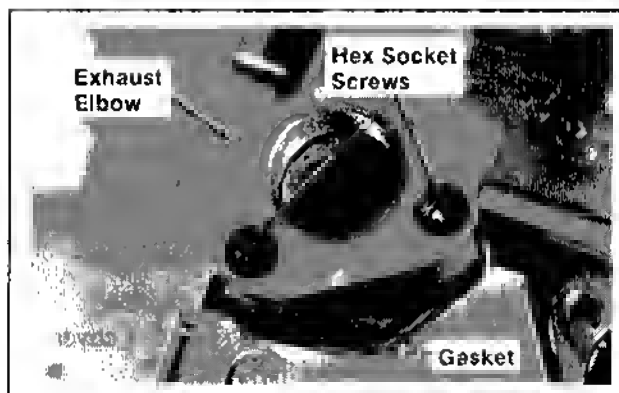

Figure 11-53. Installing Exhaust Elbows.
1. Install the gaskets, exhaust elbows, and hex socket screws. Torque screws to 150 in. lb. Refer to Figure 11-53.